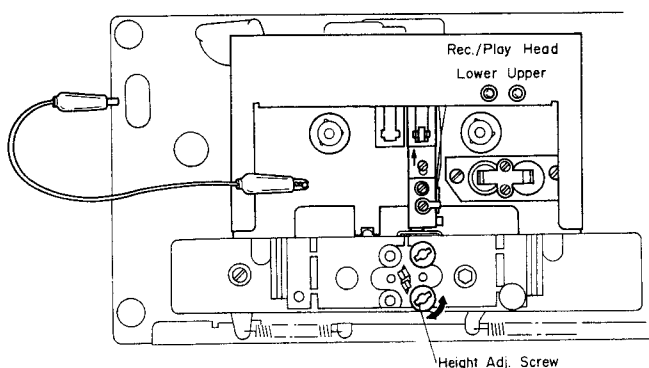

Fig. 4.4
Note: On items 4.3 – 4.8, refer to Fig. 4.4 flow chart.